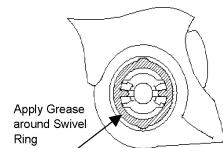

Figure 9
8. Assembly Swivel Ring, brush Swivel Ring with Grease as shown in Figure 9.